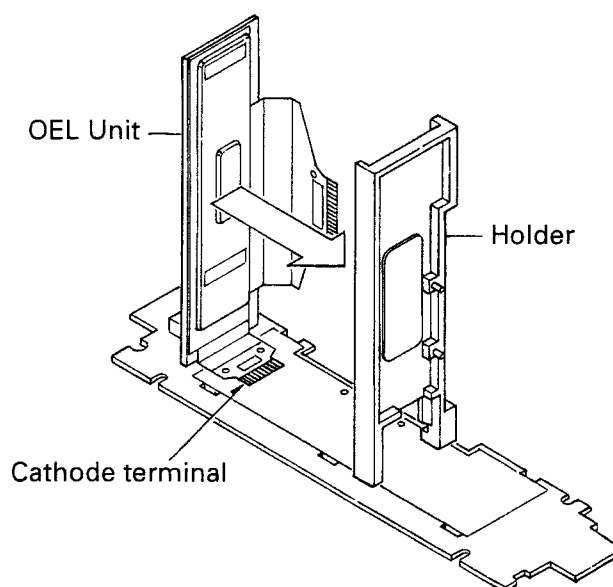

Fig.4
3. Slowly set up the OEL Unit. At this time, the stress is prevented from hanging to flexible cable in the Cathode terminal. (Fig.4)
4. The Cathode terminal is removed according to the procedure same as the Anode terminal, and the OEL Unit is removed. (Fig.4)
5. Remove the Holder. (Remove after removing the Cathode terminal without fail.) (Fig.4)